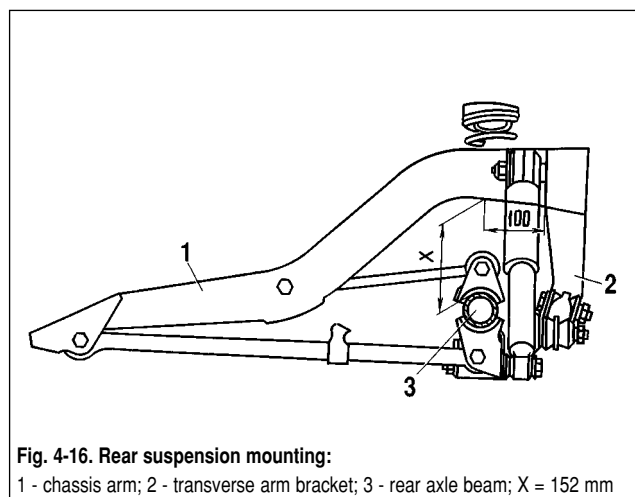

Fig. 4-16. Rear suspension mounting:
- load the rear part of the vehicle so that distance **X**, measured from the axle beam to the body chassis arm in 100 mm from the cross bar bracket (fig. 4-16), will make 152 mm; use a dynamometer to tighten the nuts on fastening bolts of the longitudinal and cross bars, and the shock-absorbers fastening pins on the axle beam and car body.